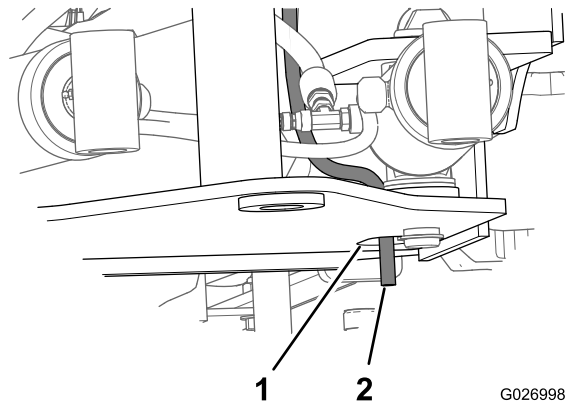

Figure 18
9. Route the coolant reservoir hose down and through the hole in the bottom plate of the mounting frame (Figure 18).